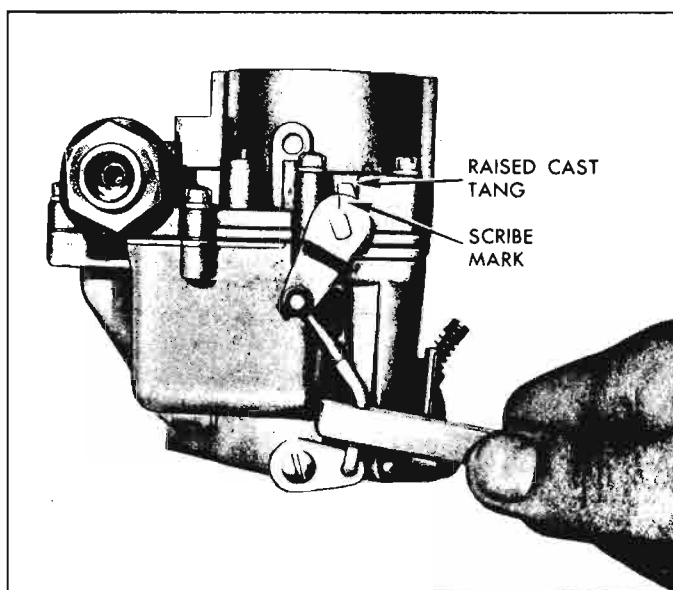

Fig. 9-15—Adjusting Pump Rod
2. Holding throttle valves closed, check to see that the scribe mark on the accelerator pump lever is aligned with the raised cast tang (front edge) on the bowl cover shown in Figure 9-15.